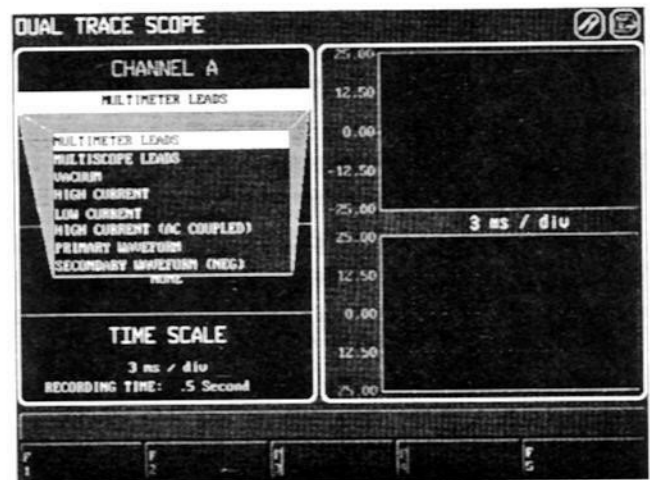

Figure 3-48
3. You may change the source leads for channels A and B, the trigger source, and the time scale as necessary. To change the source leads, use the up- or down-arrow keys to highlight the channel of your choice (A or B) and press [ENTER] (see Figure 3-48).